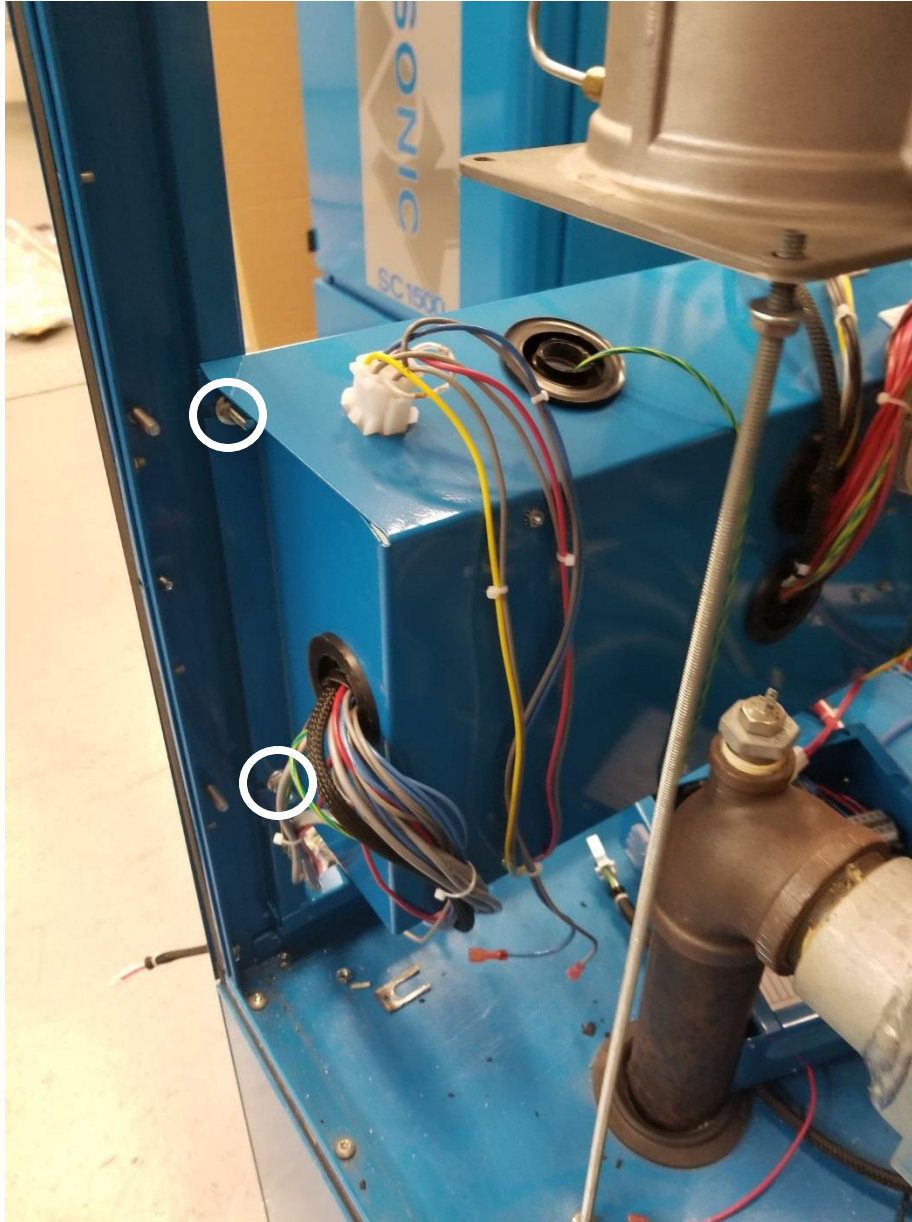

Figure 15
21. Slide control panel onto 4 studs and secure with 4 nuts shown in figure 15.